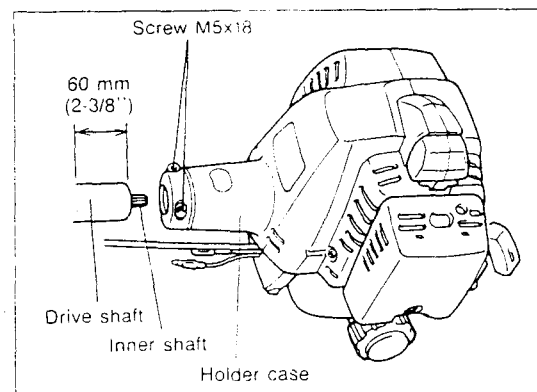

Fig. 31
1. Loosen the screws M5x18 and insert the drive shaft into the holder case (Fig. 31).